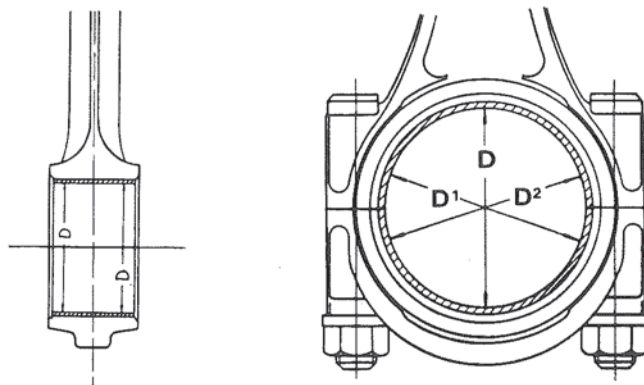

Figure 40. Measuring Points of Inner Diameter of Connecting Rod Bearing.
Make measurements just inside edge at both ends of bearing. Figure 40.
Measure at three (3) points around the circumference. Figure 40.